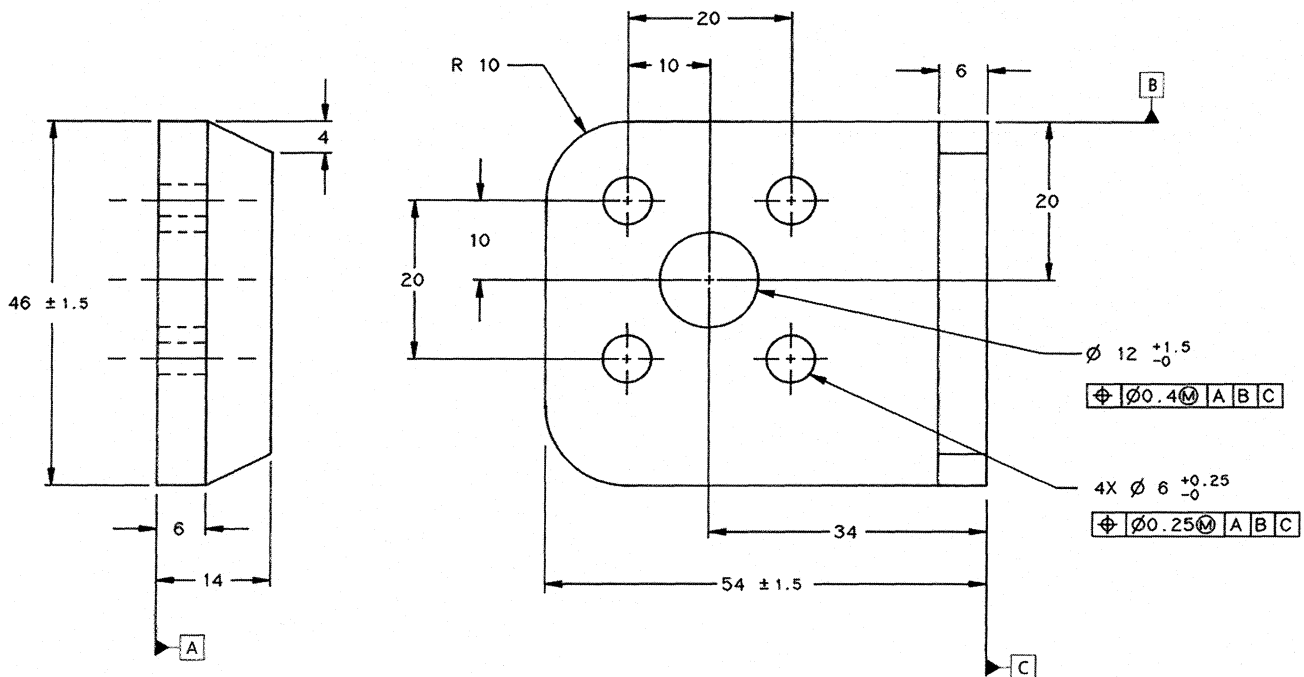
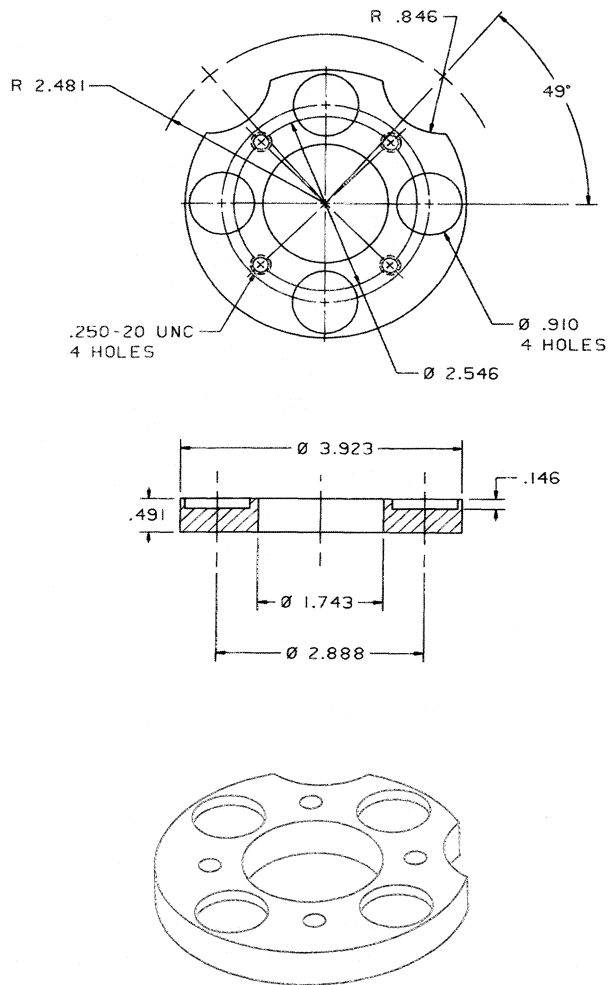

FIGURE 15.2 Mechanical Drawing Using SI Units
FIGURE 15.3 Mechanical Drawing Using U.S. Decimal Units
Drawings are *annotated* with dimensions and notes. Dimensions must be provided between points, lines, or surfaces that are functionally related or to control relationships of other parts. Manufacturing personnel should not have to compute dimensions or guess intent. Each dimension on a drawing has a **tolerance**, implied or specified. The general tolerance given in the title block is called a **general tolerance** or **sheet tolerance** (see Fig. 15.77). Specific tolerances are provided with each appropriate dimension. Together, the views, dimensions, and notes describe the complete shape and size of the part (Fig. 15.2). If any of these are incorrect, the part will be fabricated incorrectly. Therefore, accuracy of views and dimensions is of utmost importance. (Tolerances are discussed in more detail in Chapter 16.)
Uniform practices for stating and interpreting dimensioning and tolerancing requirements were established in ANSI Y14.5M. Engineering firms typically have a copy of these standards. This chapter uses both the International System of Units (SI) (metric) and U.S. customary units because SI units are expected someday to replace U.S. customary units on engineering drawings. Figure 15.2 shows a part dimensioned in SI units; Figure 15.3 shows a part dimensioned in U.S. decimal-inch units. Either type of unit can be used, with equal results.
Metric Dimensioning (Figs. 15.2 and 15.4):
Decimal-Inch Dimensioning (Figs. 15.3 and 15.5):